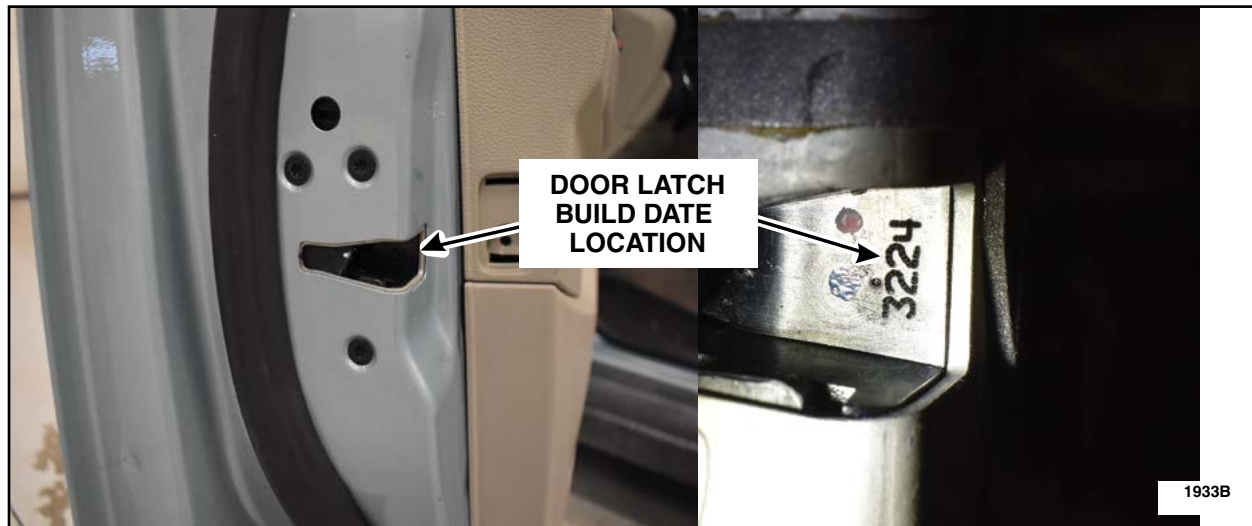

FIGURE 5
4. Once the **new** latches have been installed in the vehicle, record all four date codes of the **new** latches. Additionally, capture a picture of the date code of each new door latch (four pictures total) showing them installed in the vehicle. These pictures will need to be submitted on the SSSC web questionnaire. See Figure 5.